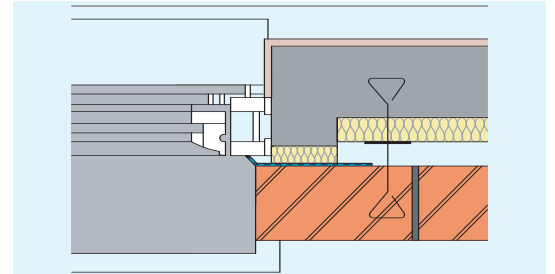

Figure 2 Plan view at jamb, showing Rockwool Rockclose with Aluminium frame in rebated 'check' reveal.
- Vertical DPCs at wall openings should project at least 25 mm into the cavity (Fig 2).